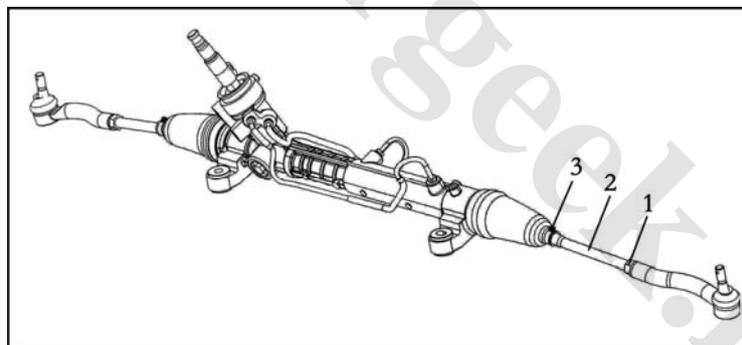

Fig. 2-8
2. Front wheel toe-in adjustment, Fig. 2-8.
- (1) Dismantle the small boot clamp on the steering stabilizer bar.
- (2) Adjust the steering wheel to the front center position.
- (3) As shown in Fig. 2-8, release the hexagon bolt, and revolve the steering stabilizer bar for a proper toe-in angle.
- (4) Confirm that each steering stabilizer bar revolves for the same turns.
- (5) Tighten the locking nut.
- (6) Install the boot clamp.